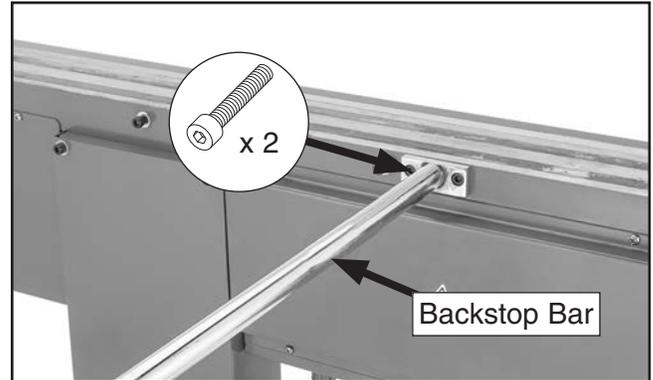

Figure 15. Backstop bar attached to brake.
2. Attach each backstop bar to back of brake using (2) pre-installed cap screws (see **Figure 15**).